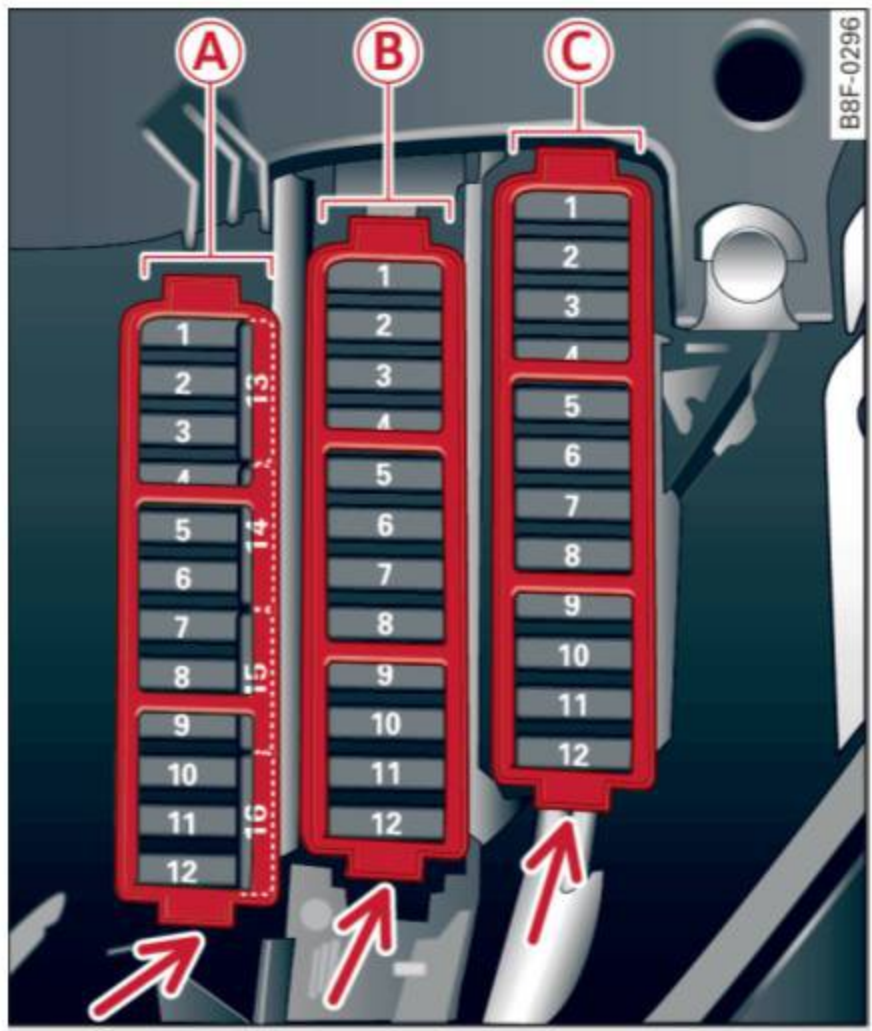

Fig. 182 Left cockpit: fuse panel with plastic clip
- ▶ Remove the colored plastic clip from the fuse panel, if necessary ⇒ page 234, fig. 182. You can dispose of the plastic clip.